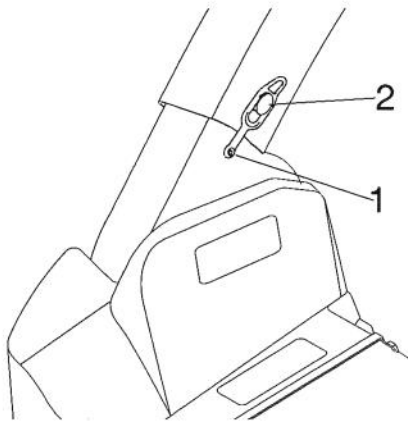

Figure 23
1. Insert the upper end of the discharge tube into the bagger top. Slide the lower end of the discharge tube over the blower discharge opening (Fig. 23).
2. Hook the rubber latch onto the knob (Fig. 23).